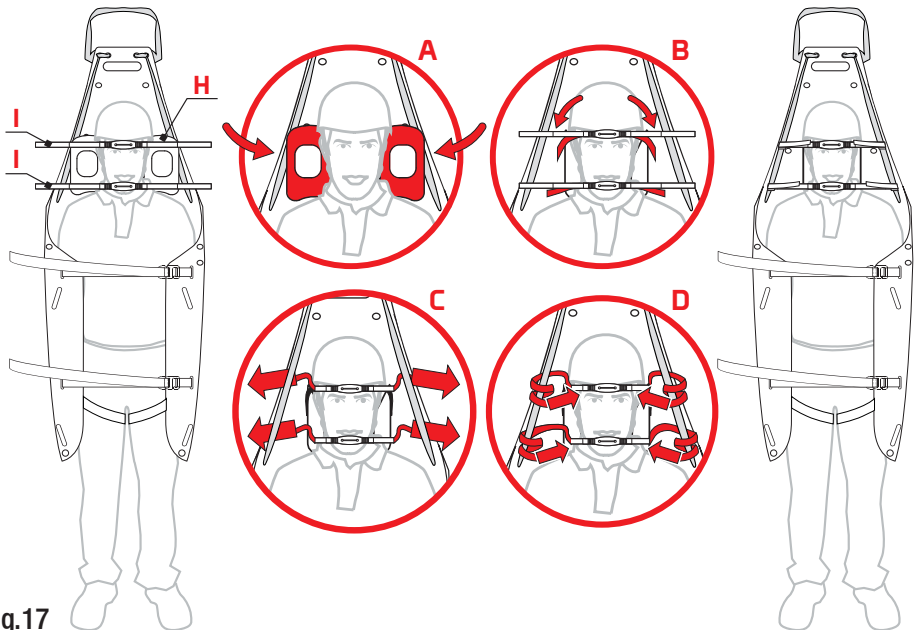

Fig.17
- a) Fasten the chin strap (I) to the head immobilizer HRP (H), using the velcro (fig. 17),
- b) Wind the chin strap velcro (I) around the rope (M) or the sling (E) and make it adhere to itself (fig. 17).